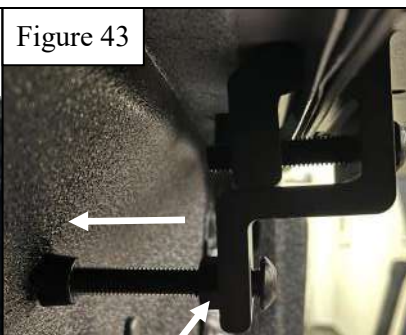

Figure 43
26. With a Rear Clamp Bracket (**Item 9**), attach it to the lip of the bed by loosely tightening the top bolt shown in **Figure 43** to slowly close the clamp, and using 2 M6 Short Torx Combo Bolts (**Item 29**) to attach the bracket to the 2 T-channel nut blocks positioned above it.